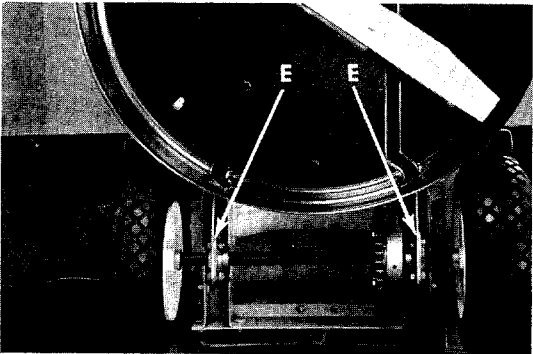

FIGURE 19. LUBRICATION
- Rear Axle Bearings.** Lubricate the rear axle bearings after every 25 hours of operation with SAE 30 oil. Wipe up excessive oil with a rag. See figure 19.
- Chain.** Remove the chain once each season, clean in kerosene, dry and lubricate with a rag saturated in SAE 30 oil. See figure 19.
- Step 5. Lubricate all lubrication points indicated in figure 19; then wipe the entire machine with an oiled rag in order to protect the surfaces.